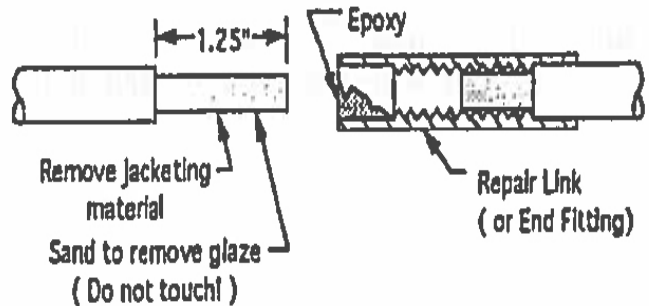

Figure 3: Duct rod repair, Repair Link connection
- F.** Rotate fitting onto the rod to distribute the adhesive and work out the air bubbles. See Figure 3.